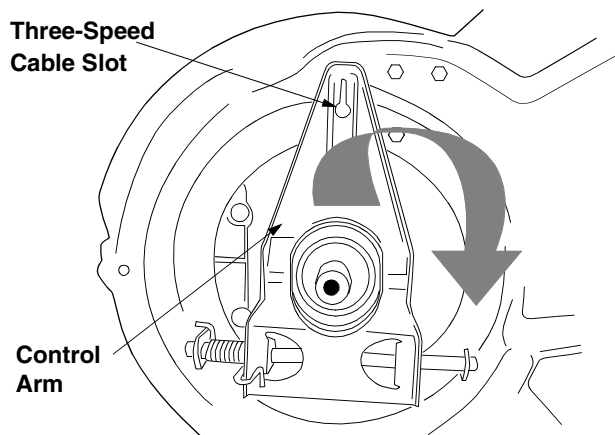

Figure 25
- Pivot the control arm back to its original position and reinstall the three-speed cable into the slot. See Figure 25.